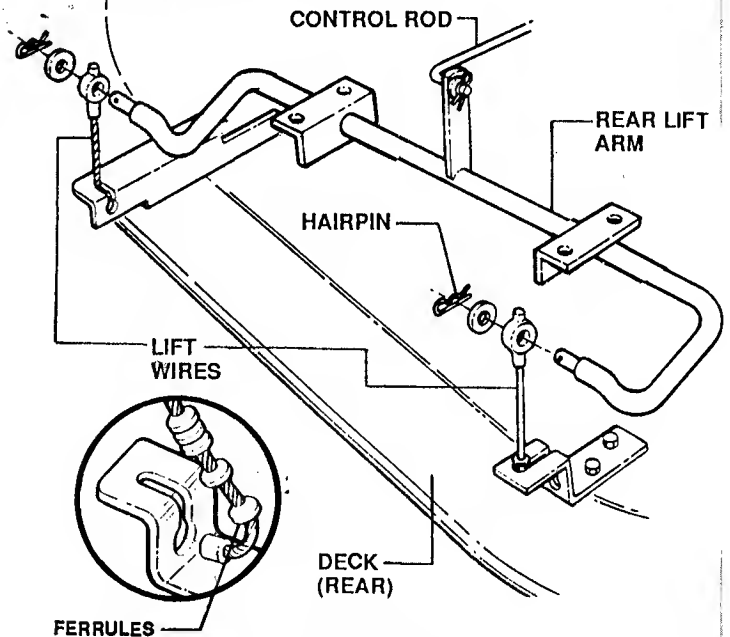

FIGURE 24
3. Remove hairpins and washers from REAR LIFT ARM CABLES. See Figure 24.
10. Adjust LIFT CABLE FERRULES in REAR LIFT BRACKETS until CABLES just slide over the rear arm pins. Reinstall flat washers and hairpins. Recheck level. See Figures 24 & 29.